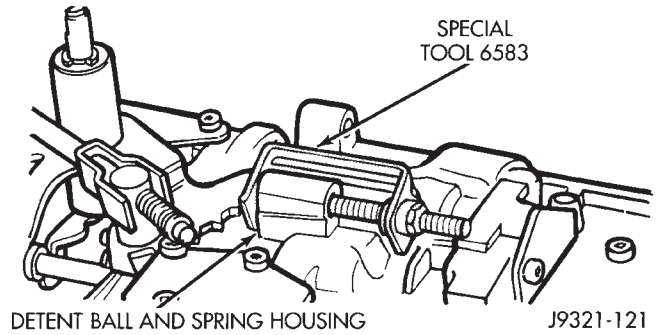

Fig. 68 Securing Detent Ball And Spring With Retainer Tool
(40) Insert detent spring and ball into opening in valve body and install Retainer Tool 6583 (Fig. 68).